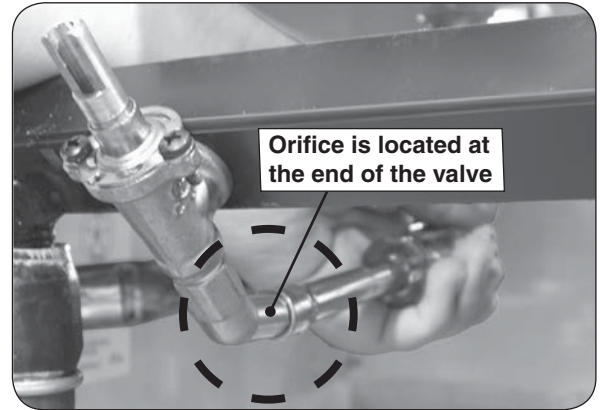
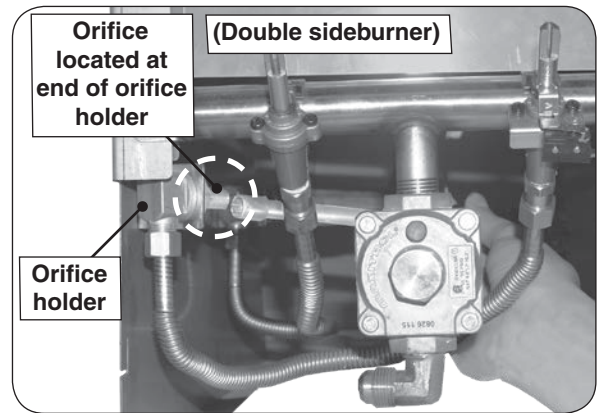

Fig. 27-1 Single sideburner orifice location
Fig. 27-2 Double sideburner orifice locations
4. Using a $\frac{3}{8}$ " socket nut driver, remove the orifice from the orifice holder (see Fig. 27-1 and Fig. 27-2) and check the number stamped on the orifice face.